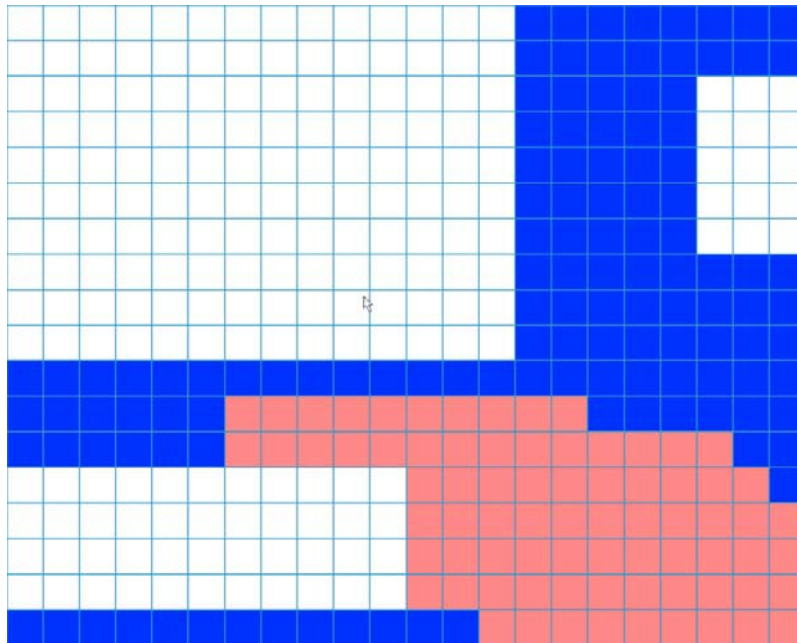

Figure 4-31
- z Test: Click it to test current motion detect setup (do not need to save). Click Select button after Region, you can set motion detect area. The default setup is whole region. The blue zones are the selected area. Please set sensitivity and click Test button, you can see system only display motion detect status of the blue area. The red flashing area is current motion detect. See Figure 4-31.